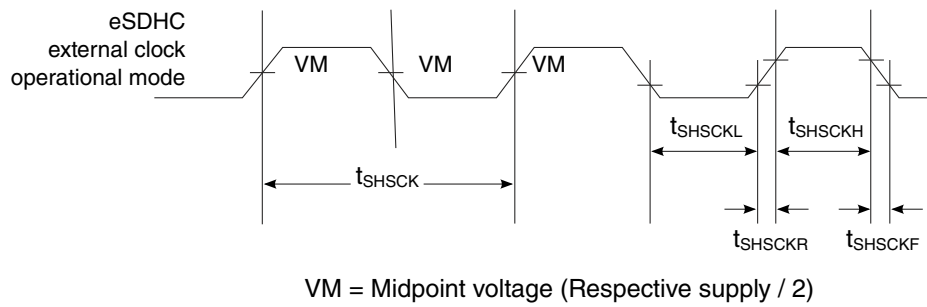

Figure 14. eSDHC clock input timing diagram
1. The symbols used for timing specifications herein follow the pattern of t_{(first two letters of functional block)(signal)(state) (reference)(state)} for inputs and t_{(first two letters of functional block)(reference)(state)(signal)(state)} for outputs. For example, t_{SHKHGX} symbolizes eSDHC highspeed mode device timing (SH) clock reference (K) going to the high (H) state, with respect to the output (O) reaching the invalid state (X) or output hold time. Note that in general, the clock reference symbol is based on five letters representing the clock of a particular functional. For rise and fall times, the latter convention is used with the appropriate letter: R (R for rise) or F (F for fall).
5. See Figure 14. on page 85.